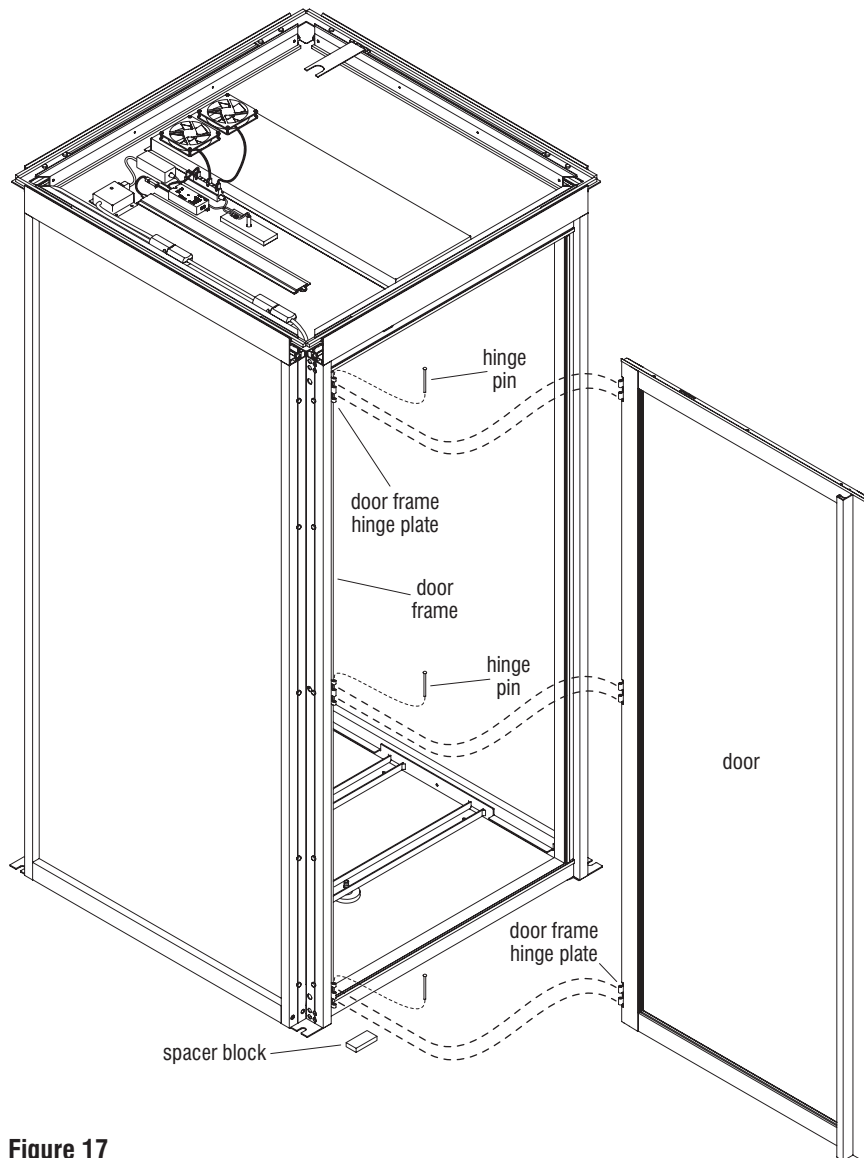

Figure 17
3. With the assistance of a second person, have one person lift the door into position on top of the spacer block and balance the door, while the second person interlocks the door hinge pin sleeves with the door frame hinge pin sleeves. Using a weighted rubber mallet and the spacer block used to help support the door, tap hinge pins into each interlocked hinge pair from the top down as illustrated (Figure 17, Details E2 & F2).